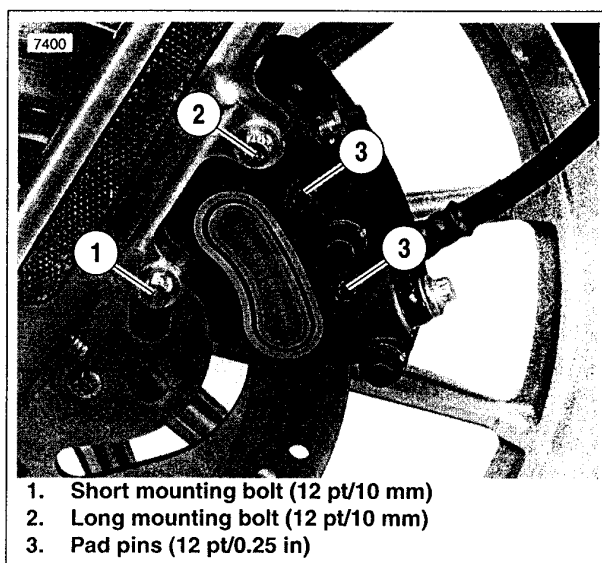

Figure 1-18. Front Brake Caliper (Left Side Shown)
2. See Figure 1-18. Loosen, but do not remove, both pad pins (3) (12 pt/0.25 in.).
- b. See Figure 1-18. Place caliper over brake disc with bleeder valve facing upwards.
- c. Loosely install long mounting bolt (2) (12 pt/10 mm) into top hole on fork leg.
- d. Install short mounting bolt (1) (12 pt/10 mm) into bottom hole on fork leg. Tighten bottom mounting bolt to 28-38 ft-lbs (38.51.5 Nm).